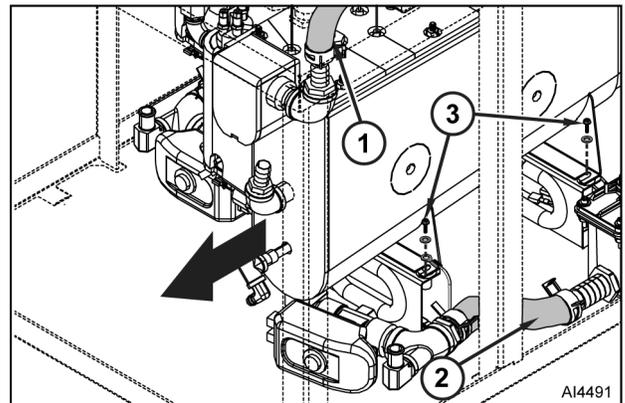

Fig. 24
- A. Disconnect steam hose (1, Fig. 24) from generator tank.
- B. Disconnect drain hose (2) from drain box.
- C. Loosen / remove bolts and washers (3) that secure steam generator to mounting brackets.